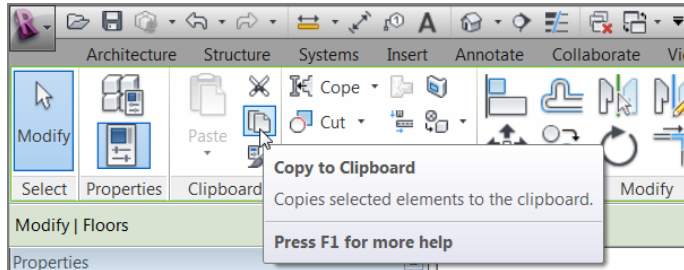

FIGURE 6.30: Clicking the Copy To Clipboard button
2. On the Modify | Floors tab, click the Copy To Clipboard button on the Clipboard panel, as shown in Figure 6.30.